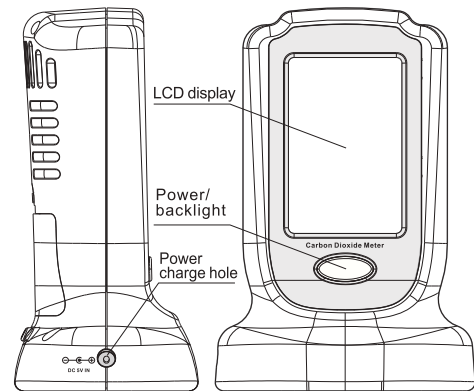

Figure 2
(1) Restart
(2) Check whether the power adapter is original. If the adapter is of no use, please contact after sales.
V. Name of each component (as shown in Figure 2)